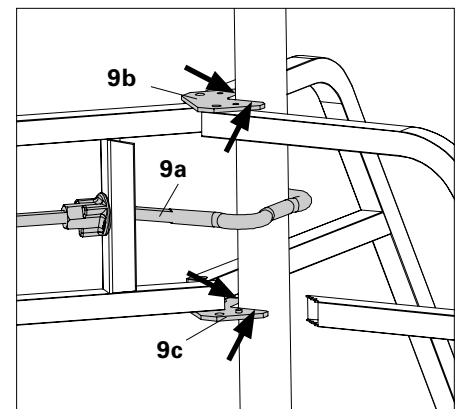

Fig. A1.04a
3. Ensure that the slab prop lies flat against the top and bottom connection plates (9b and 9c). (Fig. A1.04a)